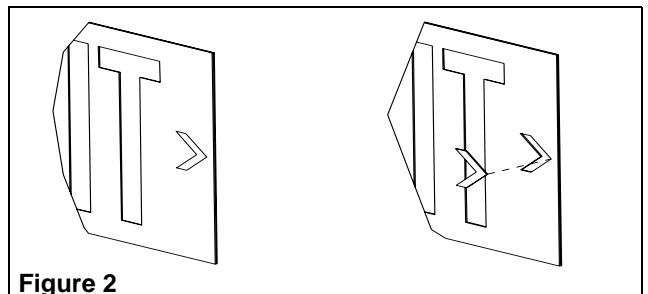

Figure 2
4. Remove directional arrow knockouts in faceplate as required. Place a support either side of the arrow to be removed and knock out with a screwdriver (see fig. 2).